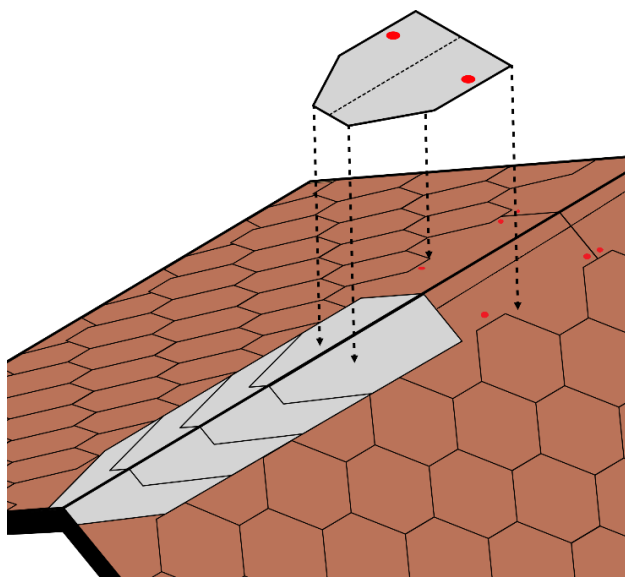

Fig. 11 – Ridge elements installation
- Fix the first ridge element with 2 galvanized nails at least 32mm long, one nail on each side - Fig. 11. Proceed with the installation of the other ridge elements in sequence, leaving an exposed part of 10 cm between one element and the next.